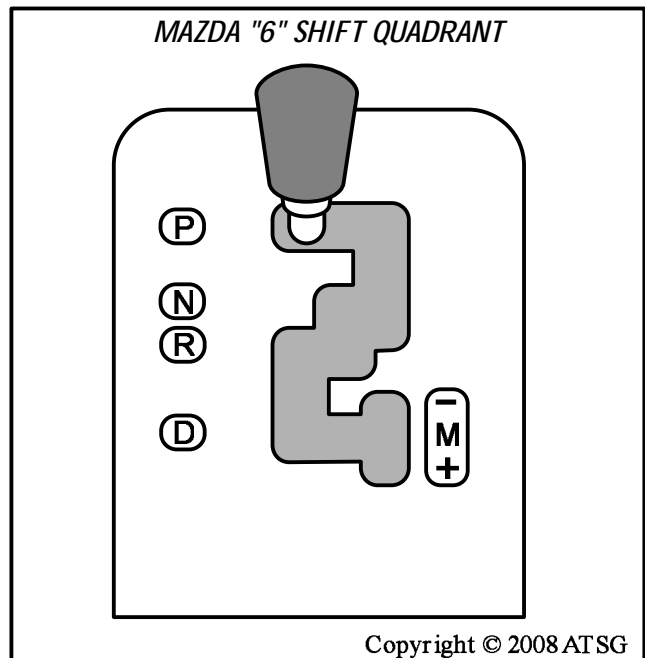

Figure 3
The Mazda "6" has a four detent shift quadrant, as shown in Figure 3, along with a "Manual" mode, that allows the driver to select the range of gears available, by tapping the selector lever towards the "-" or "+" to downshift or upshift.
**M** When the Manual position is selected, it enables the driver to select the range of gears by tapping the selector lever towards the "-" or "+" to cause the transaxle to downshift or upshift, and is shown in Figure 3. These ranges can be used for conditions where it may be desirable to control the selection of gear ratios. These conditions include trailer towing, hilly terrain, starting on slippery surfaces, and for engine braking when descending slight grades.